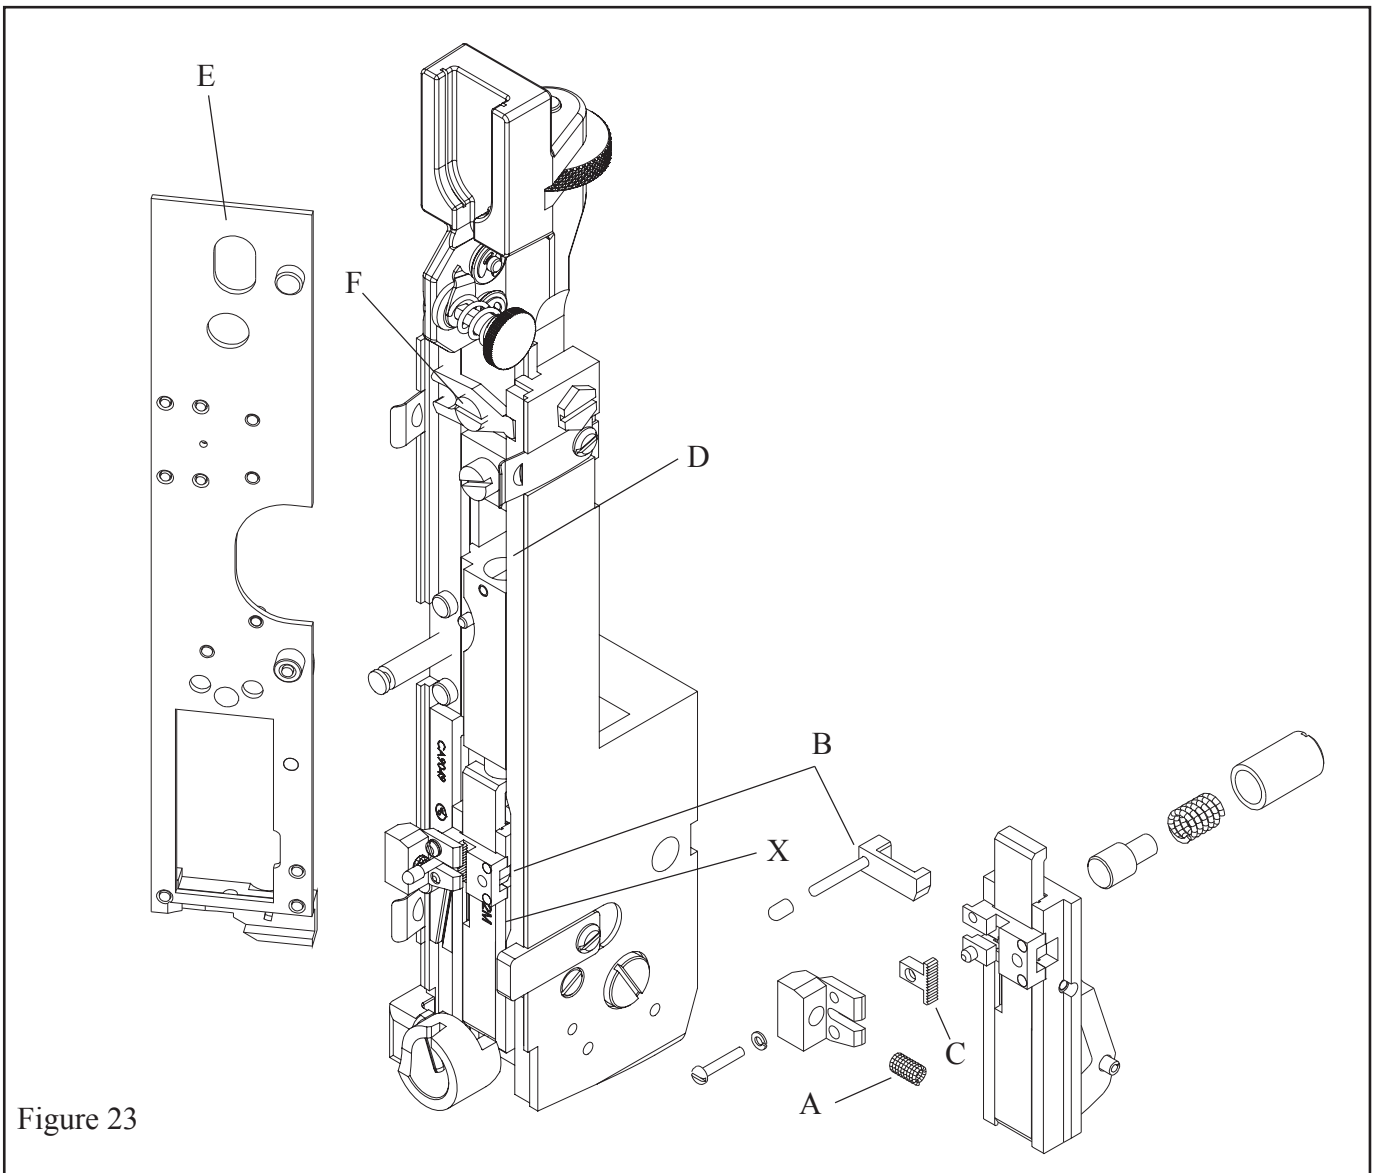

Figure 23
H. Grip, Grip Release Slide and Face Plate: (Figure 23)